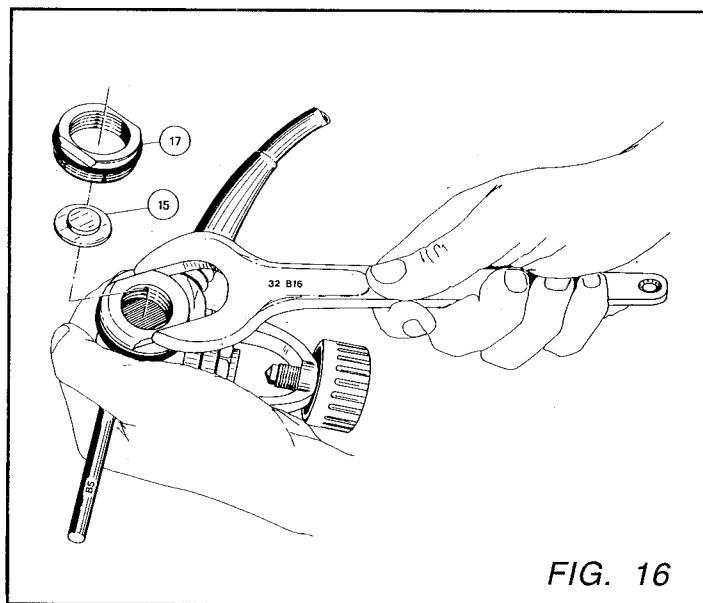

FIG. 16
14. Remove retaining nut (17) with wrench (B16) and remove spring base plate (15) (Fig. 16).